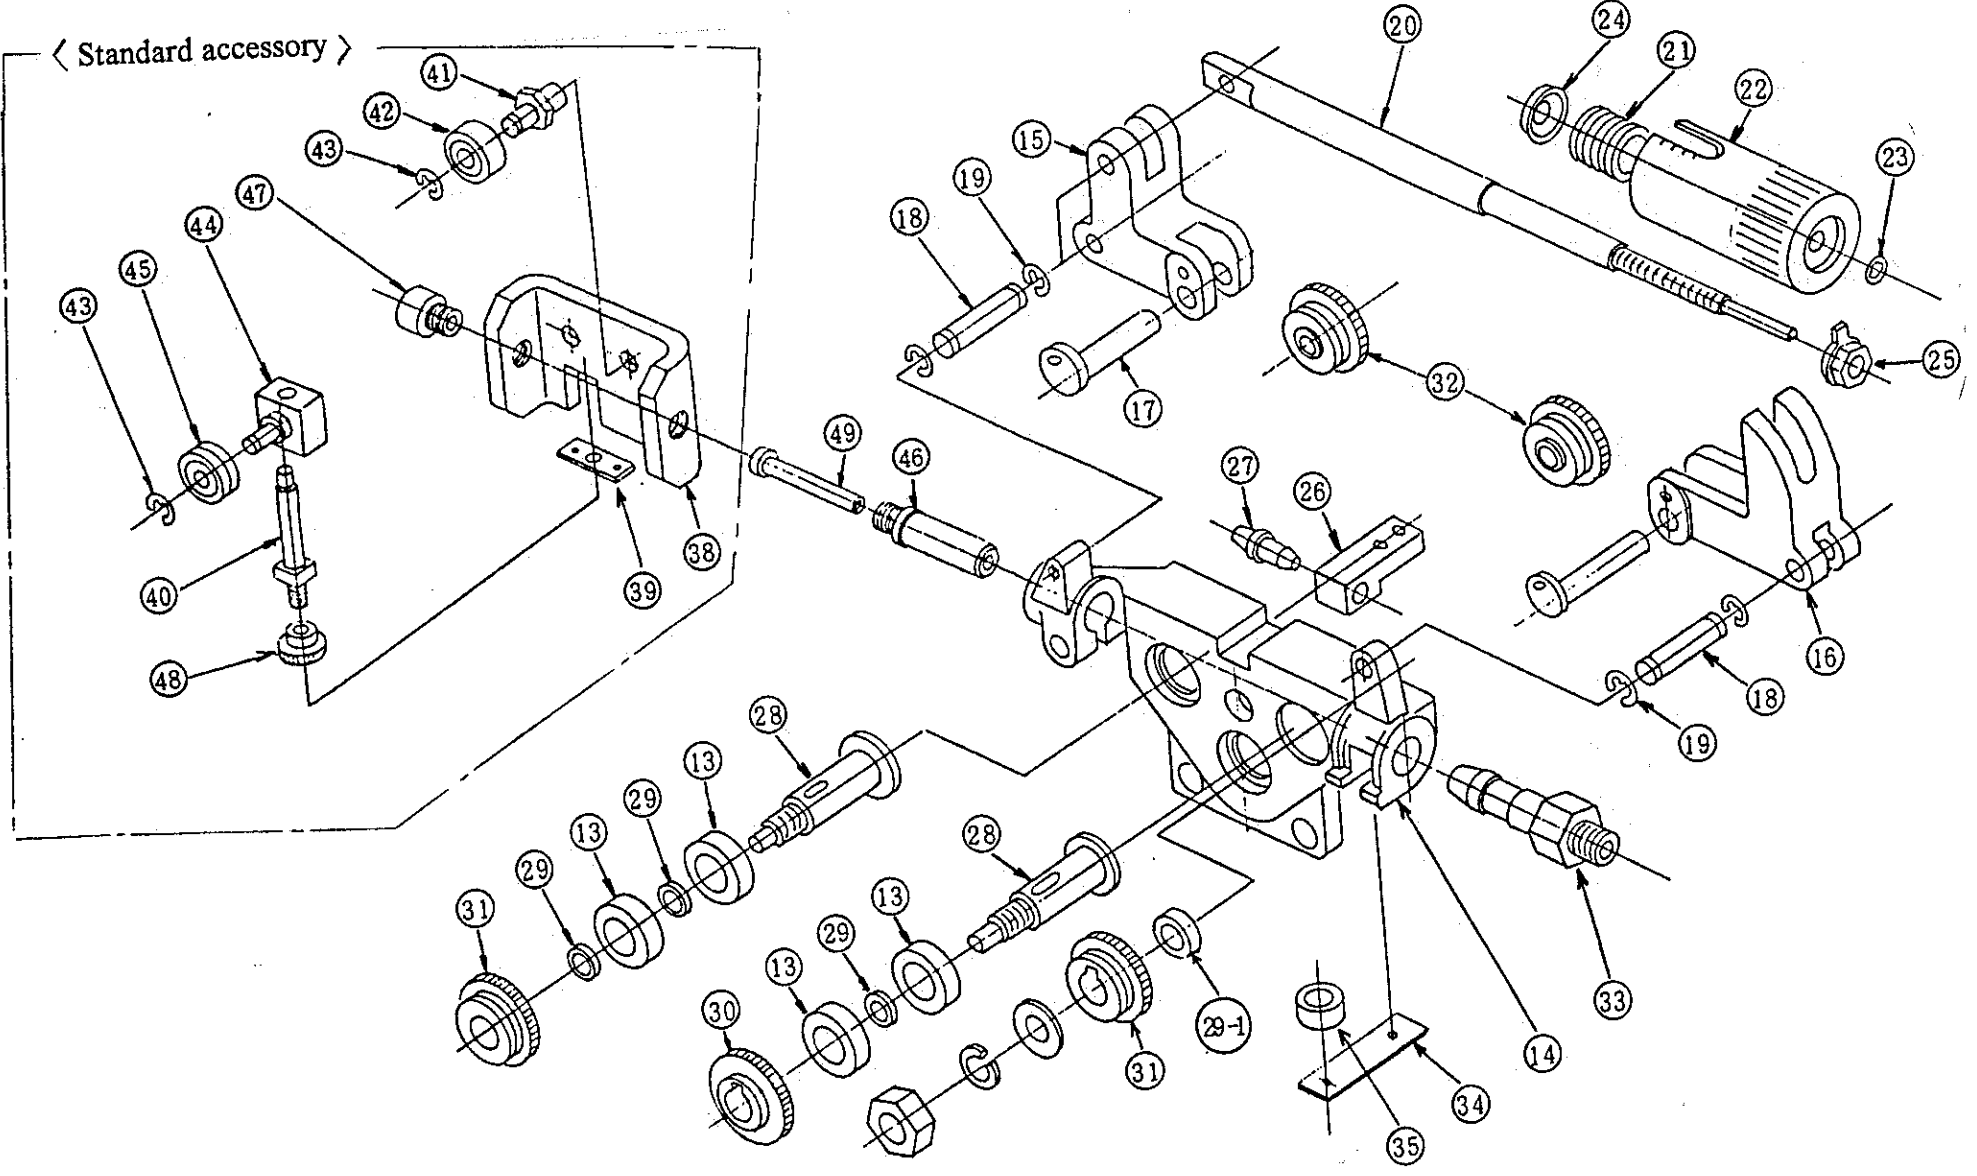

Fig. 2 Exploded view of wire feed and pressure part
9.1 Wire feeding reduction gear (Refer to Fig. 2)